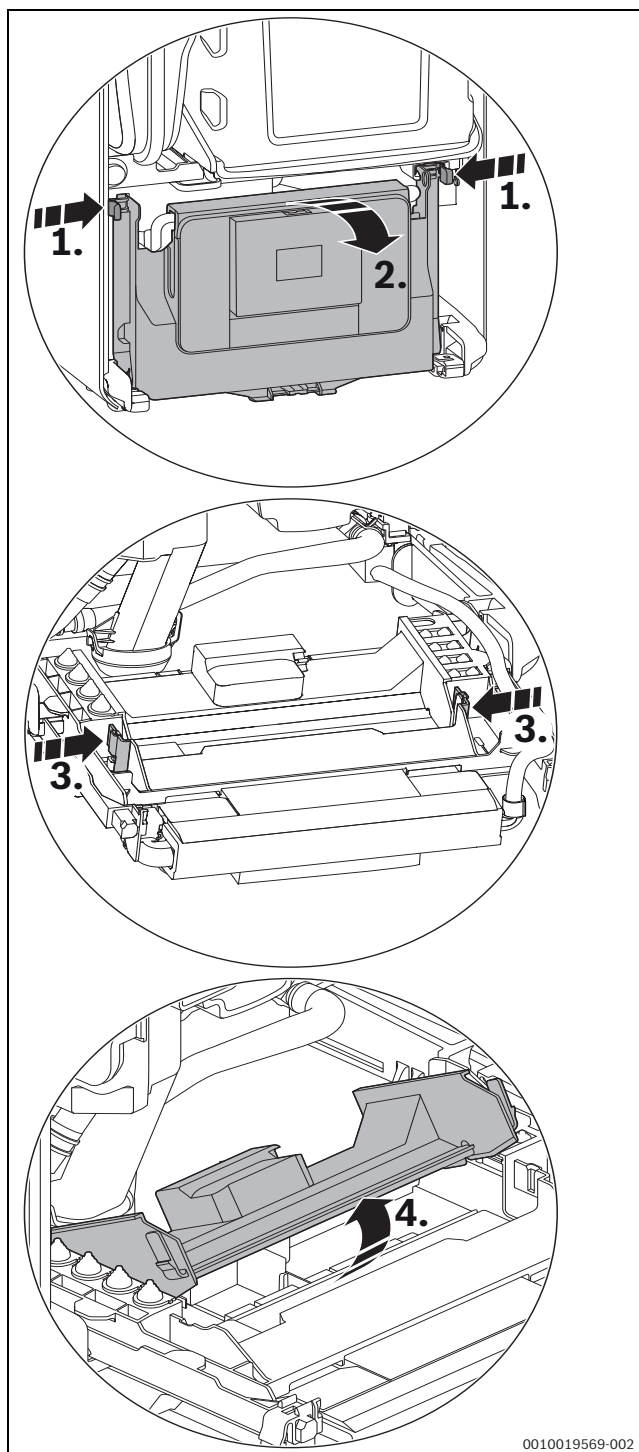

Fig. 25 Opening the cover
- ▶ Flip down the control device (→ Fig. 25).